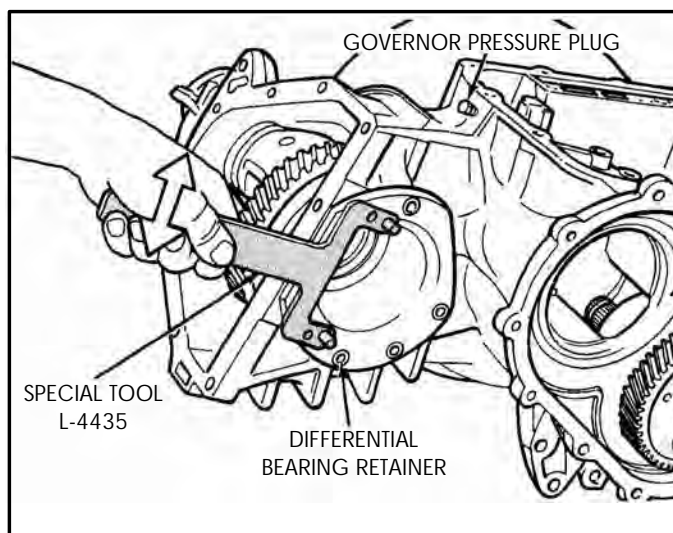

Figure 139
23. Using the special tool L-4435, gently rotate the differential bearing retainer to remove it from case, as shown in Figure 139.